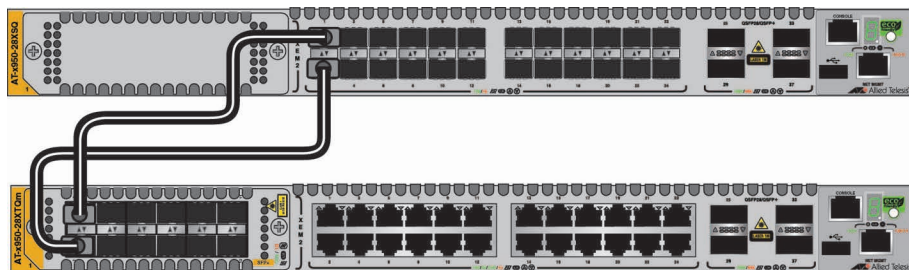

Figure 44. Unsupported Trunk of Connected Base and Line Card Ports
- ❑ Trunks cannot have links that interconnect base ports and XEM2 Line Card ports. The example trunk in Figure 44 is unsupported because base 10Gbps ports 1 and 2 in the top switch are connected to ports 1 and 2 on the XEM2-12XS Line Card in the bottom switch.